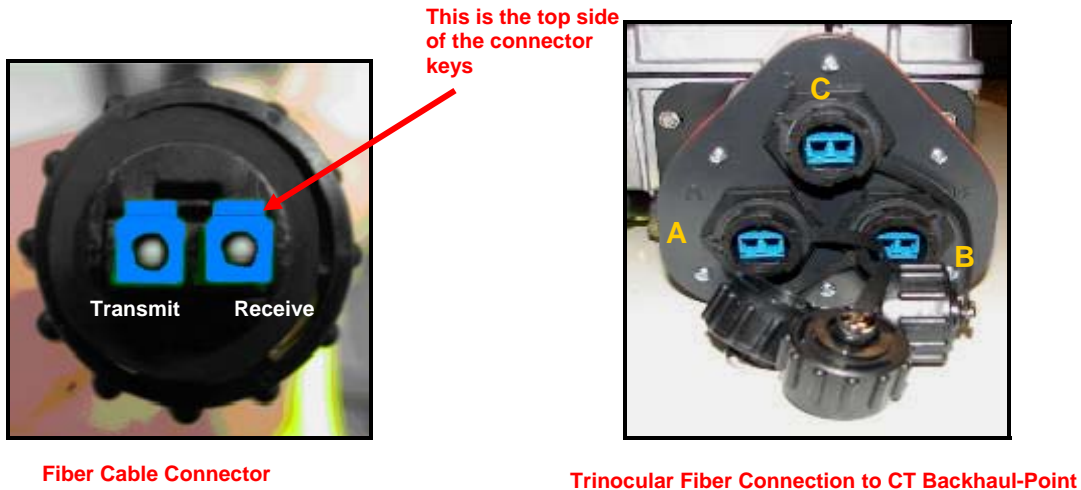

Figure 31 – Transmit and Receive Connectors for Fiber Cable
10. Connect the fiber cable to the cable connector on the CT Backhaul-Point. Twist the connectors closed. *Figure 31* shows the *Transmit* and *Receive* connectors, as well as defining the trinocular connectors. Connect to A, B, or C per the service provider's instructions.